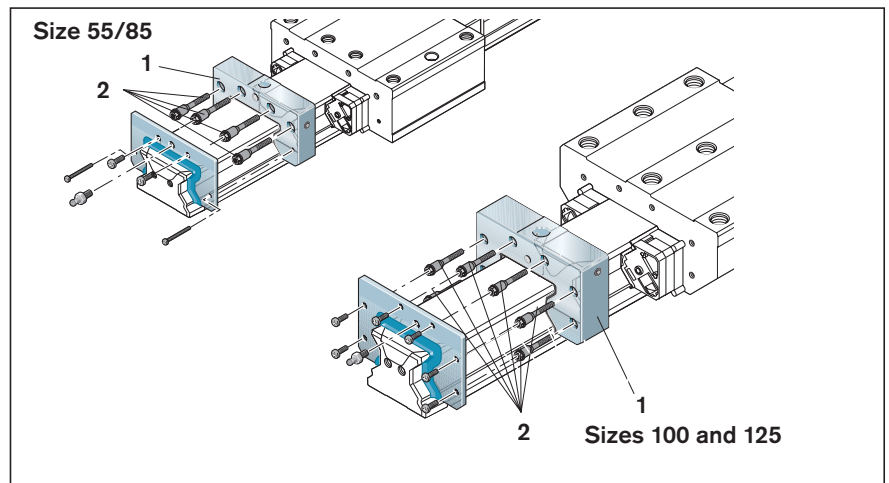

Fig. 47: Mounting the end cap and end seal
1. Mount the new end cap (1) with new screws (2). ➡ ☒ Fig. 47.
### Tightening torques for end seals and end caps (screws 2, 4, 5 (Fig. 47/48))